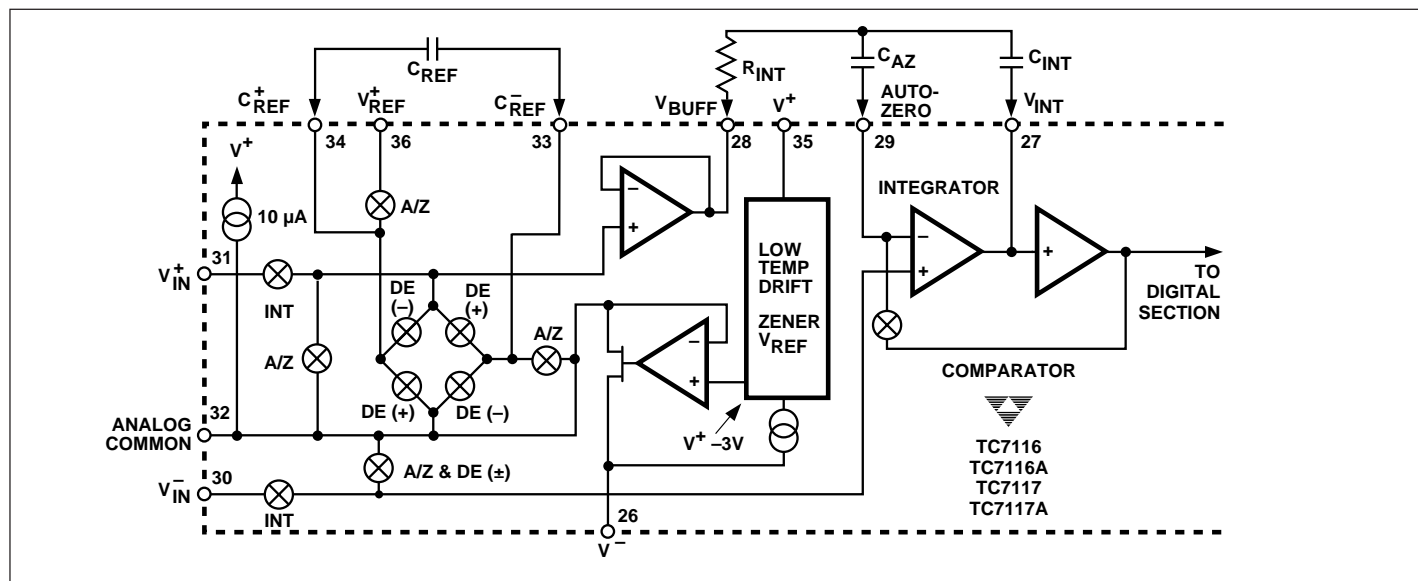

Figure 3. Analog Section of TC7116/TC7116A and TC7117/TC7117A
Figure 3 shows the block diagram of the analog section for the TC7116/TC7116A and TC7117/TC7117A. Each measurement cycle is divided into three phases: (1) auto-zero (A-Z), (2) signal integrate (INT), and (3) reference integrate (REF) or deintegrate (DE).